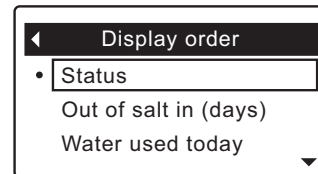

FIG. 69
4. Press the SELECT (○) button to display the Display order screen (See Figure 69).